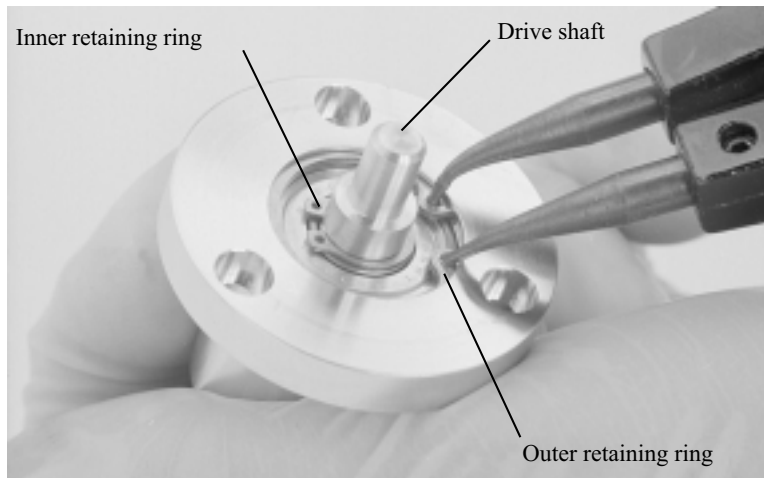

Figure 6-30. Removing the retaining ring that secures the outer crucible drive bearing in the bearing housing
Step 1: Hold the drive shaft assembly in one hand, with the shaft extending toward you, as shown in Figure 6-30. Using a snap-ring tool with the correct-sized prongs, remove the retaining ring that holds the outer drive bearing in place in the bearing housing.